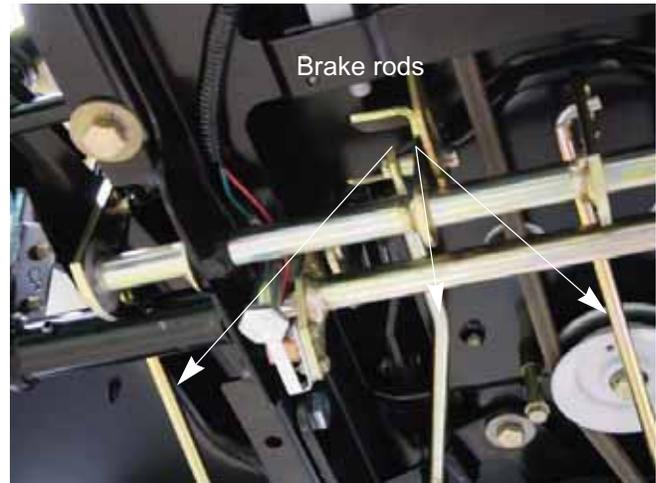

Figure 3.19
2. Remove the cotter pins that retain the three brake rods. Slide the brake rods out of the brake cross shaft assembly. See Figure 3.19.